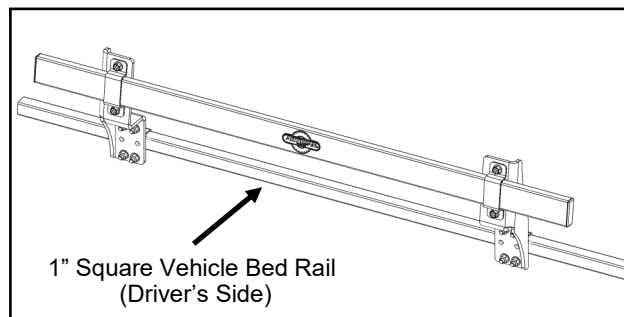

Fig. 1
1. Figure 1 shows the tool bar mounted to a 1" square vehicle bed rail, facing outwards. This is the preferred orientation for hanging chainsaws and long handled tools on the tool bar. This orientation is also required if adding the *Artillian UTV Mounted Tool Rack*.